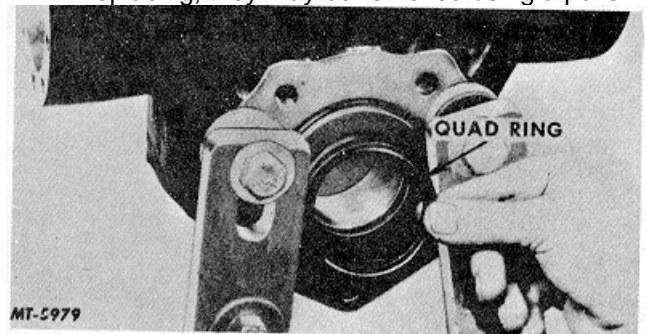

Fig. 27
26. Remove seal (quad ring) from output shaft bore, Fig. 27.